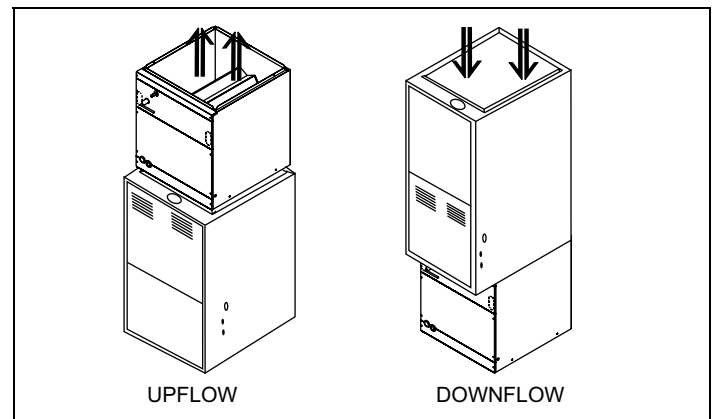

FIGURE 5: Vertical Applications
1. Position the coil casing over the furnace opening as shown in Figure 5 (Downflow). For G2FD046 only, remove drain pan extension from top flange.
NOTE: Attach tie plate to rear of the coil and to furnace as shown in Figure 5.